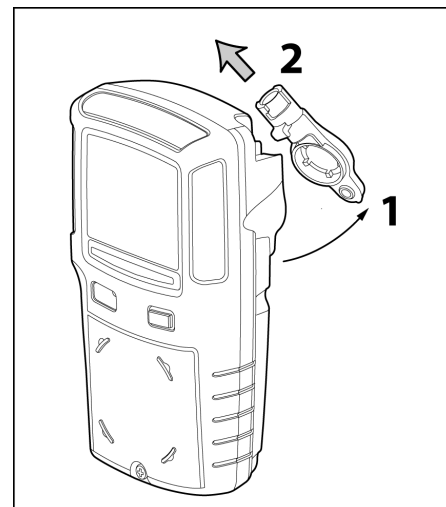

Figure 13. Removing the Pump Filters
2. Remove the pump inlet screw and the pump inlet. Refer to Figure 13.